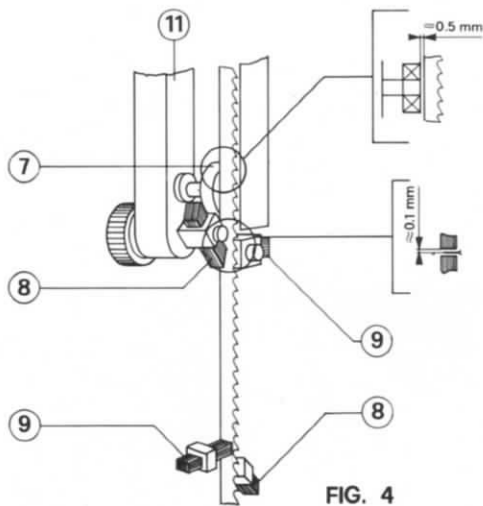

FIG. 4
- with your finger on one of the spokes of the upper wheel rotate the wheel and, at the same time with the other hand, turn the centring knob (6) until the blade takes up its correct central position on the rim of the upper wheel. Only a fraction of a turn on the knob (6) will normally be necessary to position the blade correctly.
- 7.3. Adjust the upper and lower blade guides and rollers as shown in fig. 4.